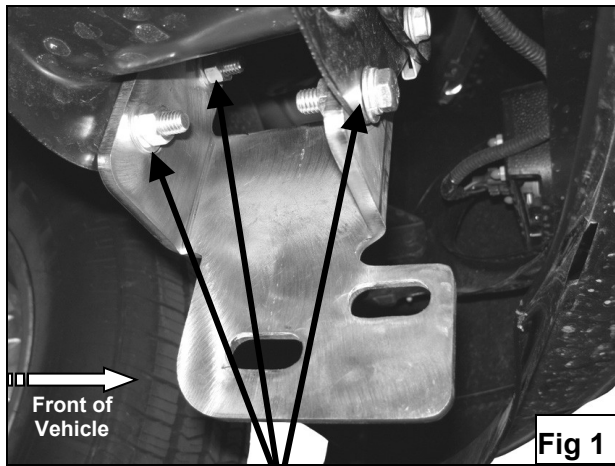

Fig 1
- Locate the three factory holes in the driver side body mount channel (**Figure 1 & 2**).
- Position driver side Frame Bracket into body mount channel. **NOTE:** "U" shaped mounting tabs on the Bracket should be facing the inside of the vehicle (**Figure 1 & 2**).
- Partially mount Bracket to body mount channel using the included (3) 10mm x 30mm Hex Head Bolts, (3) 10mm Hex Nuts, (3) 10mm Lock Washers, and (6) 10mm Flat Washers (**Figure 1 & 2**).